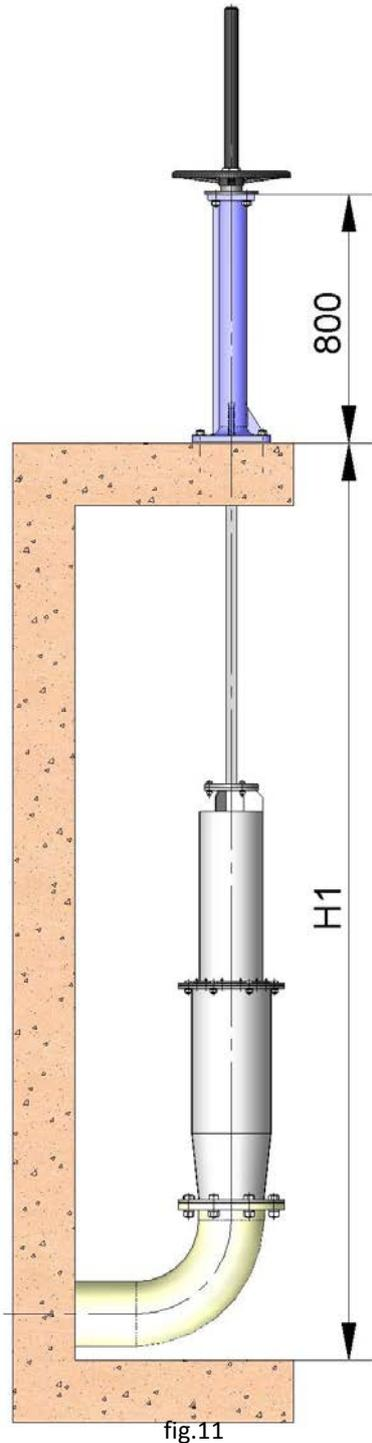

fig.11
- The standard floor stand is 800 mm high (fig. 11). Other floor stand measurements available on request.